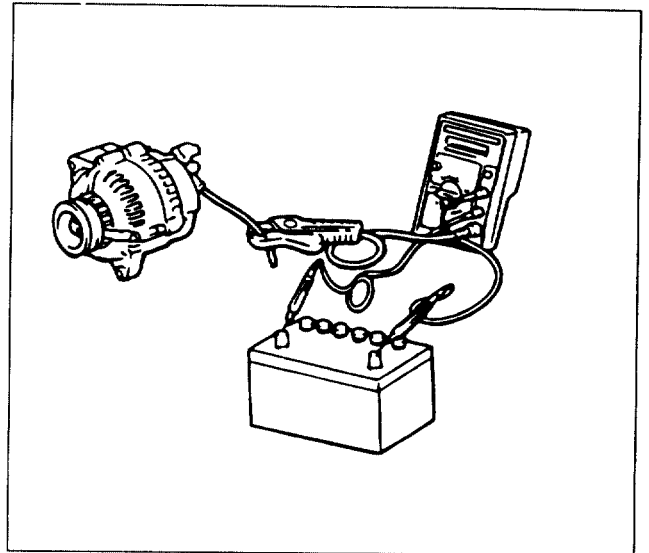

Figure 1 - On-Vehicle Test
1. Connect the voltmeter and ammeter as shown in the figure 1. Turn the ignition switch to "ON" position. The generator indicator lamp should light.